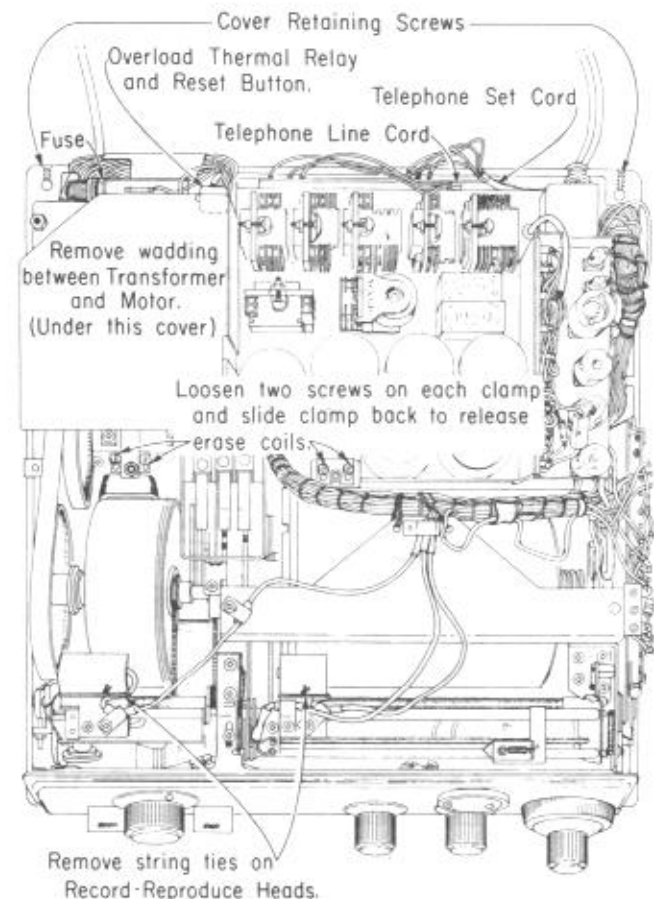

Fig. 1 — 1A Answering Set, Top View
1. Secure the magnetic record-reproduce heads by tying with lacing twine so that the heads are held out of contact with the recording drums (Fig. 1).
2. Secure the erasing coils by loosening the clamp screws, moving the clamps toward the front of the machine, and tightening the screws again (Fig. 1).
1. To remove the cover loosen the two cover retaining screws at the rear of the machine (see Fig. 1), just far enough to release the cover locking pins. When the cover is released, raise the rear of the cover until it clears the apparatus inside, then slide the cover forward to release the front end.
4. Release the movable coils for erasing messages on the Announcement and Incoming Message drums. To release the coils, loosen two screws on each clamp (see Fig. 1), slide the clamps toward the rear of the set, and retighten the screws.